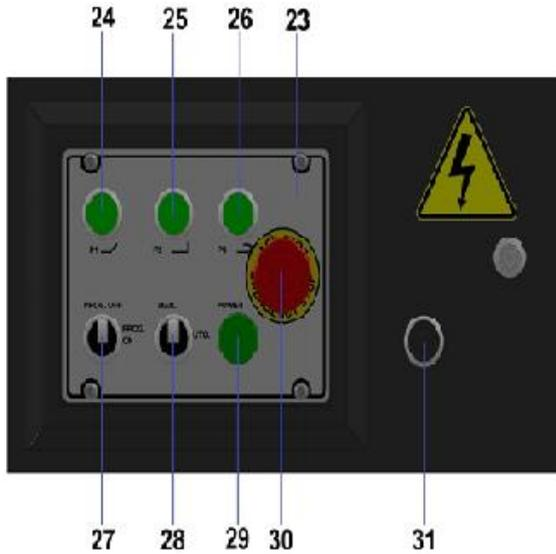

Figure 5: 220V Manual Machine Control Buttons
- Select the bending shape from the buttons on the control panel. (Figure:5 No:24,25,26)
- Adjust the machine’s speed by the Speed Controller (Figure:5 No:31) Once the speed of the machine decreased, the bending disc’s rotation speed will reduce and machine’s power (bending capacity) will increase. And when the speed is increased the bending disc’s rotation speed will increase and the machine’s power ( bending capacity ) will decrease.
- On stirrup bendings, switch the PROG. ON-OFF button to (Figure5: No:27) “ON” position and max. 9 different bending is adjusted at once and the bending can be done in the adjusted order.
- After the adjustment is finished, switch the MAN-AUTO button(Figure:5 No:28) to AUTO position and start to serial bending.
- In case of an emergency, machine can be stopped by pressing the 'emergency stop button2 on thecontrol panel. (Figure:5 No:30) When you start to bend machine will re-start from the latest adjusted programme.